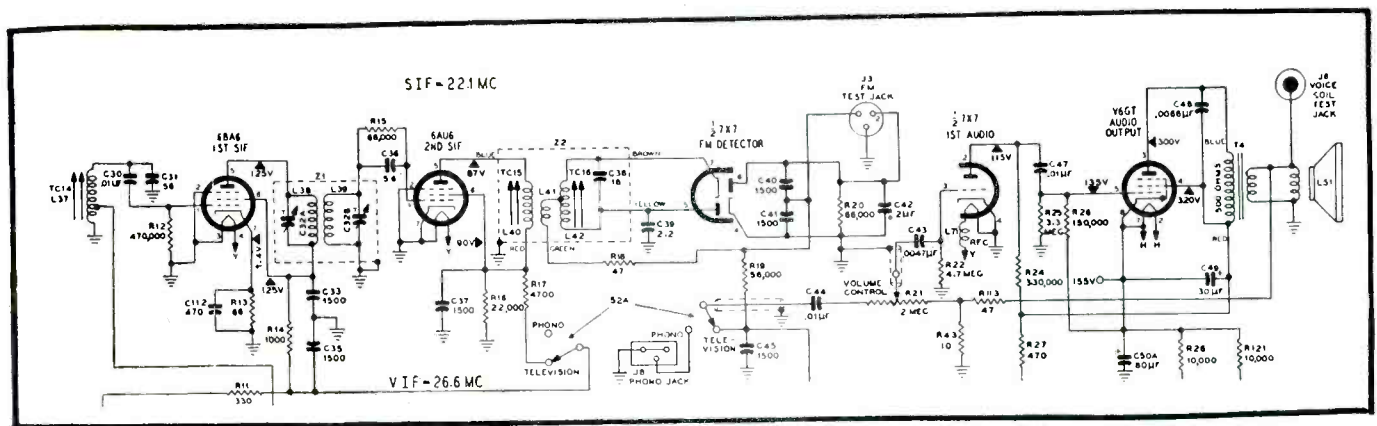

Fig. 1. Sound strip of Philco 50-T1400 Code 121, and 50-T1432 Code 121.
The models on which the tests were conducted were the Philco Models 50-T1400 Code 121 and 50-T1432 Code 121. These sets use a conventional sound i-f system with a sound i-f carrier of 22.1 mc. Figure 1 shows the original sound strip of the above receivers. The following is the exact procedure that was used to perform the conversation:
1. Referring to Fig. 1 remove 22.1 mc discriminator, Z2 and 1st SIF transformer Z1. Clip off the coupling condenser C30 from the 1st SIF grid. Disconnect R37, the 3rd VIF cathode resistor, from the 22.1 mc trap, L37 and ground it. Clip off the discrimi-